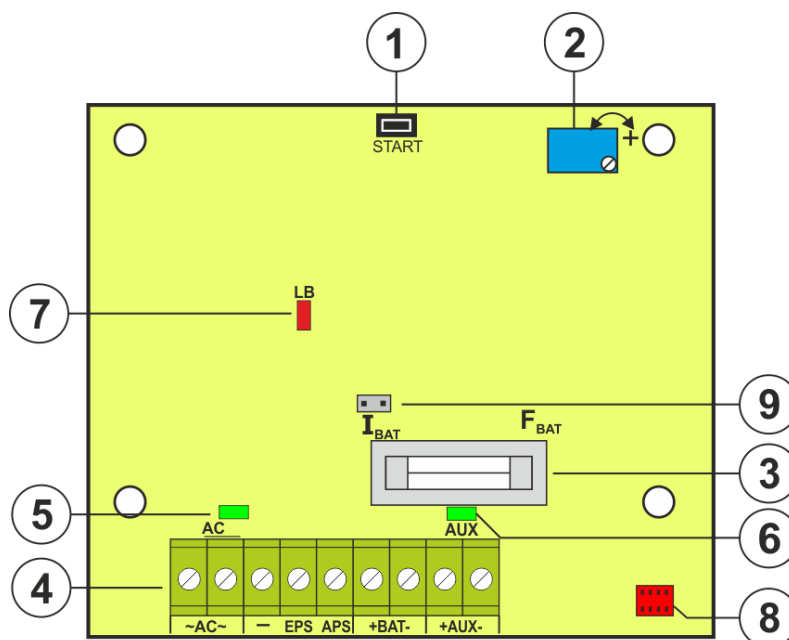
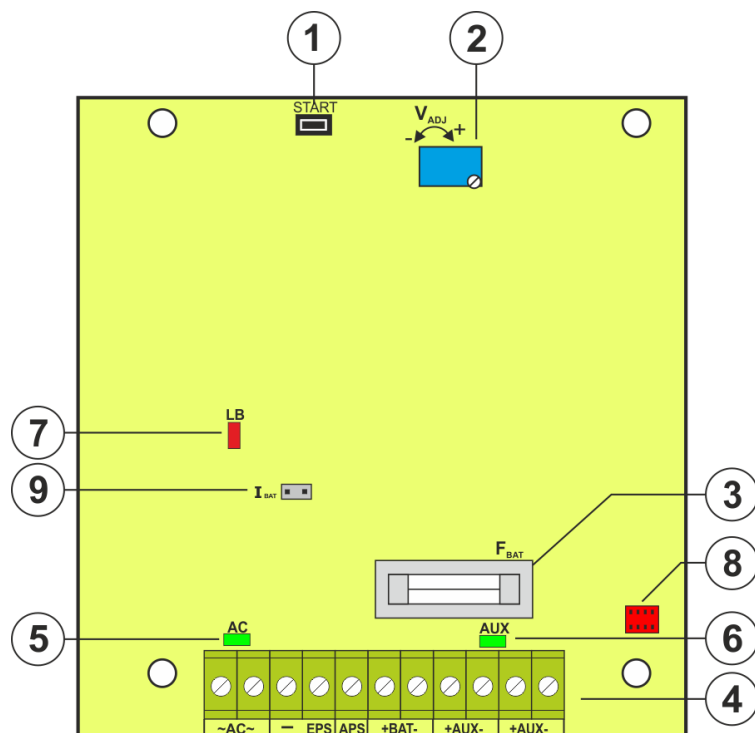
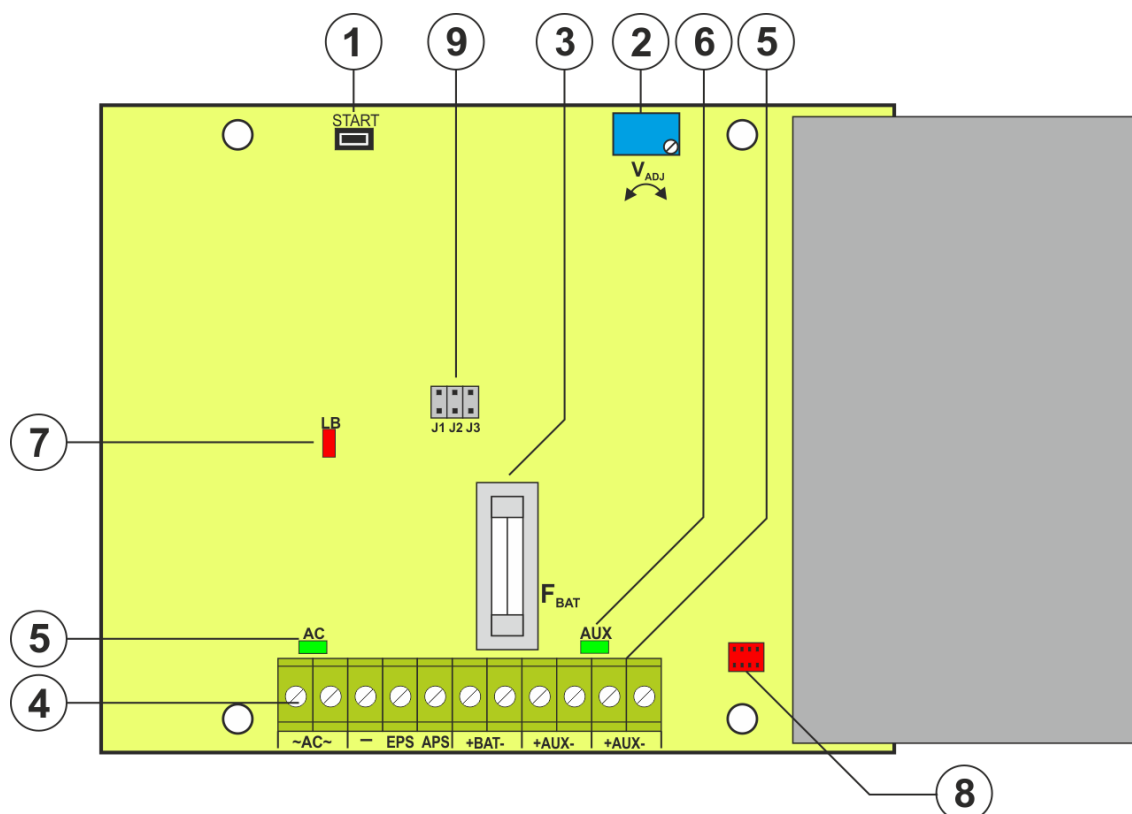

Fig. 2a. View of PCB board of 12V2A model
Fig. 2b. View of PCB board of 12V3A / 24V2A model
Fig. 2c. View of PCB board of 12V5A / 24V3A model
①	START button (launching from battery)
②	V_{ADJ} potentiometer, adjustable output voltage
③	F_{BAT} fuse in the battery circuit
④	Terminals: ~AC~ – AC power input EPS – technical output of AC power loss indication hi-Z state = AC power failure 0V state = AC power - O.K. APS – technical output of battery failure hi-Z state = failure 0V state = PSU status O.K. +BAT- – terminals for battery connection +AUX- – DC power supply output, (+AUX= +U, -AUX=GND) Description: hi-Z – high impedance, 0V – connection to the ground GND
⑤	LEDs – AC – indication of presence of main power
⑥	LEDs – AUX – power supply output voltage indication
⑦	LEDs – LB – battery charging indication
⑧	Connector to the external LED indicators
⑨	Jumper I_{BAT} ; – battery charging current configuration Power supply unit 12V2A (see Fig 2a) <ul style="list-style-type: none"> • I_{BAT} = , I_{BAT} = 0,2 A • I_{BAT} = , I_{BAT} = 0,5 A Power supply unit 12V3A / 24V2A (see Fig 2b) <ul style="list-style-type: none"> • I_{BAT} = , I_{BAT} = 0,5 A • I_{BAT} = , I_{BAT} = 1,0 A Power supply unit 12V5A (see Fig 2c) <ul style="list-style-type: none"> • J1=  J2=  J3=  I_{BAT} = 0,5A • J1=  J2=  J3=  I_{BAT} = 1A • J1=  J2=  J3=  I_{BAT} = 2A Power supply unit 24V3A (see Fig 2c) <ul style="list-style-type: none"> • I_{BAT} = , I_{BAT} = 0,5 A • I_{BAT} = , I_{BAT} = 1,0 A Description:  jumper installed,  jumper removed